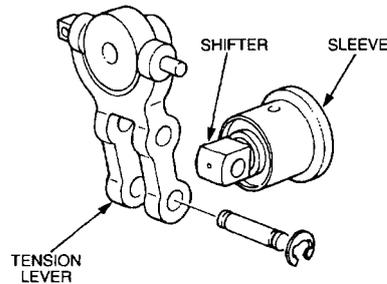

Figure 98 Removing the Snap-ring and Pivot Pin
- x. Remove the snap-ring from the pivot pin and remove the pivot pin. Separate the sleeve and shifter assembly from the tension lever (Figure 98).